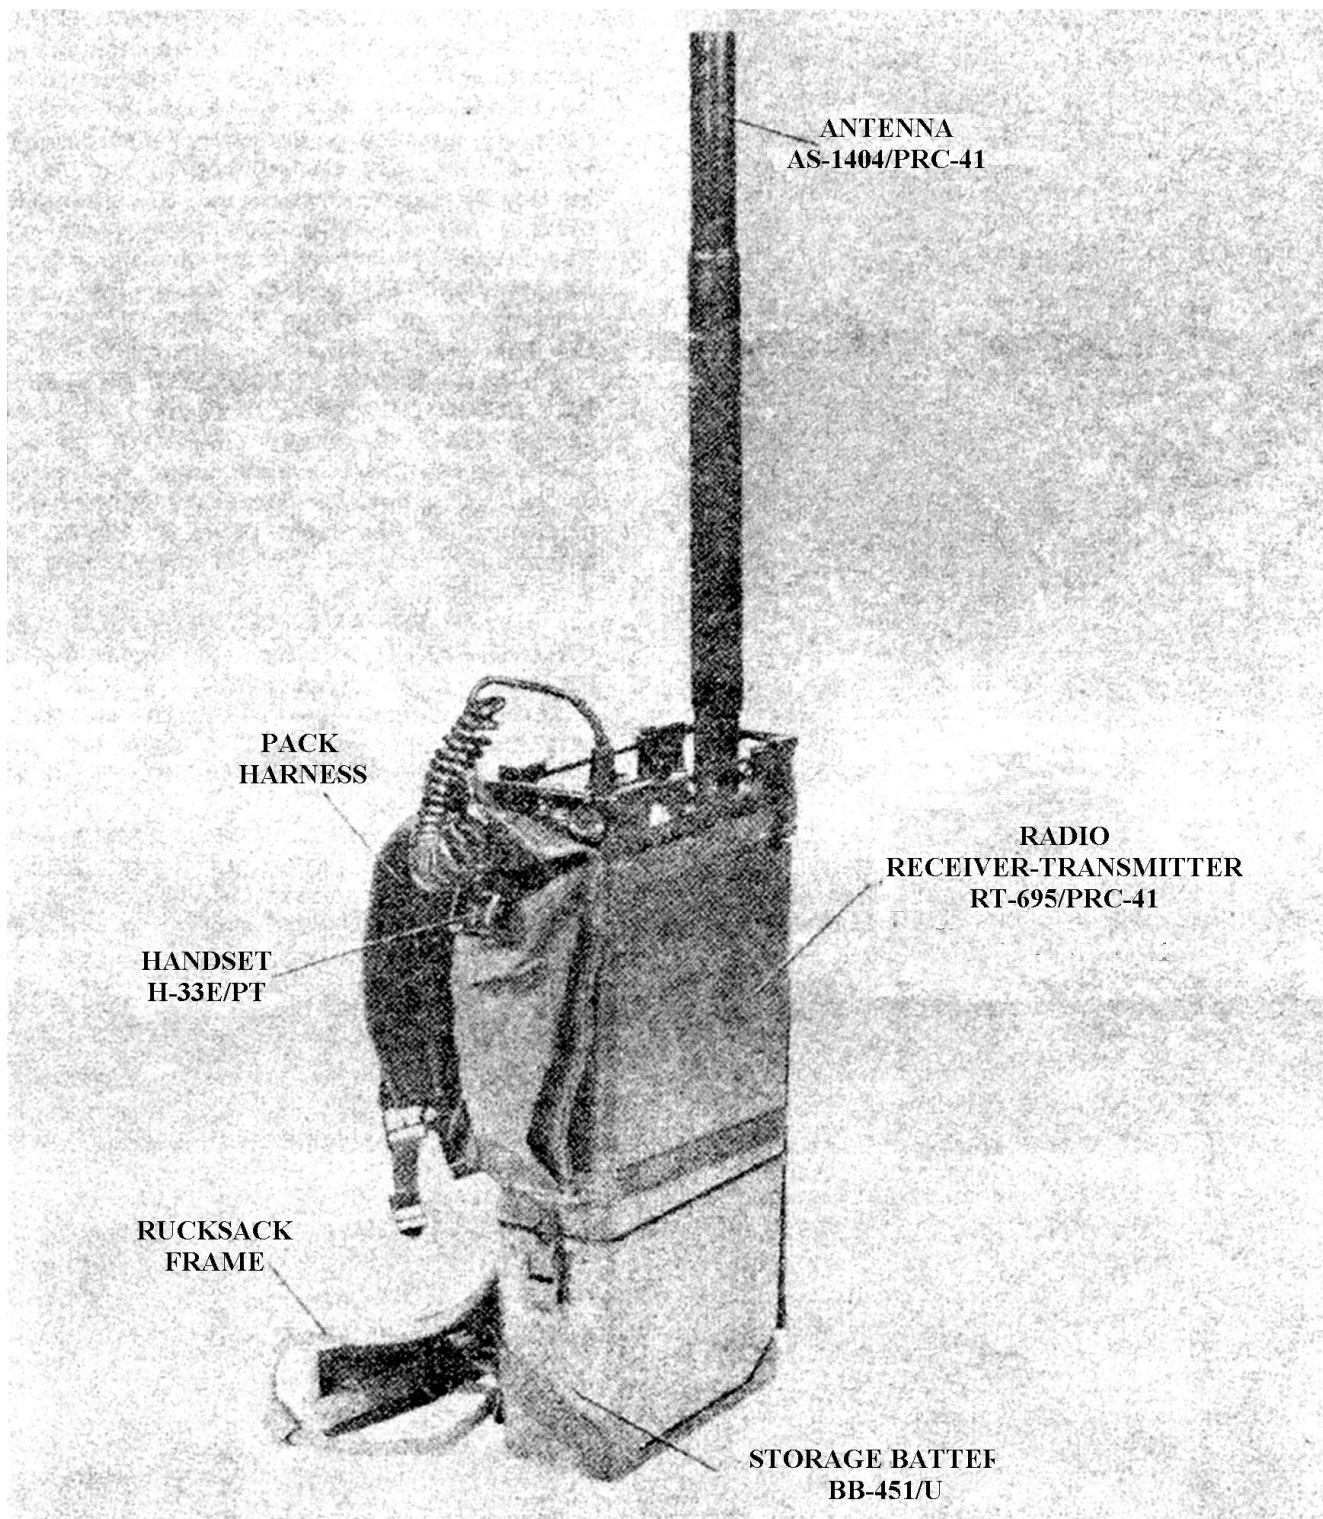

Figure 1-6. Radio Set AN/PRC-41. Man-Pack Operation Configuration
(5) ANTENNA AS-1404/PRC-41. - Refer to figure 1-6. Antenna AS-1404/PRC-41 is an omnidirectional antenna for use with Radio Receiver- RT-695/PRC-41. The AS-1404/PRC-41 is used for transmission and reception of signals in the 225- to 399.9-mc range without electrical or physical adjustments. It may be mounted directly on antenna connector J28 on the front panel of Radio Receiver-Transmitter RT-695/PRC-41 or the connector on the antenna mounting bracket; or, when mounted on Mast AB-777/PRC-41, it must be connected through Adapter UG-29B/U and Radio Frequency Cable Assembly CG-55G/U to the RT-695/ PRC-41.
(6) HANDSET H-33E/PT. - Refer to figure 1-6. Handset H-33E/PT is made up of a headpiece, a length of cable, and a connector which mates with either AUDIO connector on the front panel of Radio Receiver-Transmitter RT-695/PRC-41. The H-33E/ PT contains a transmitter, a receiver, and a press-button. In operation, pressing the press-to button places the RT-695/PRC-41 equipment in transmit operation; releasing returns the equipment to receive operation.
(7) RUCKSACK FRAME. - Refer to figure 1-6. The rucksack frame is a government furnished equipment. The rucksack frame and associated straps and harness provide a back-pack frame for carriage of Radio Receiver-Transmitter RT-695/PRC-41, Storage Battery BB-451/U, and Antenna AS-1404/ PRC-41 in man-pack operation.